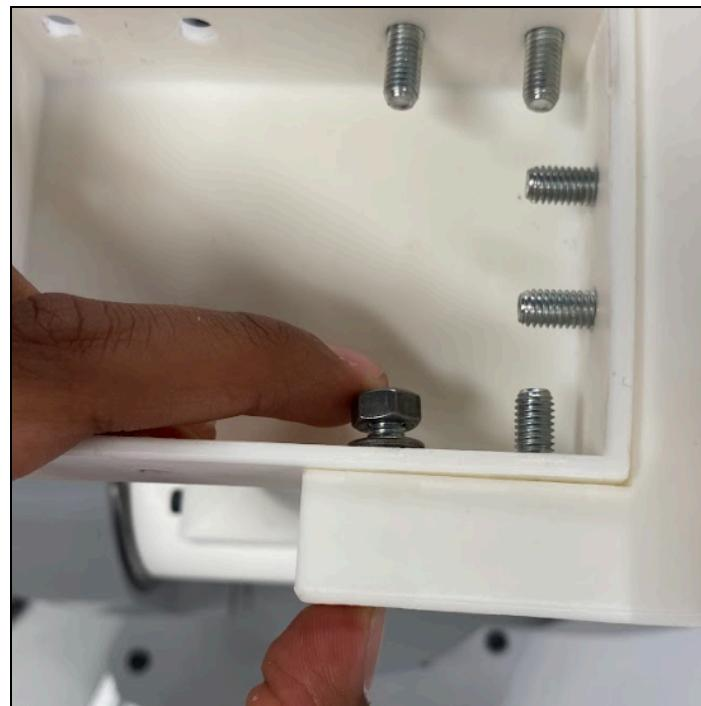

Figure 30: J3 Bearing Holder to Bicep Fastener orientation
- Below is the placement of the fasteners with the washer and nut in place. If the nut is difficult to tighten, use needle nose pliers for assistance. See Figure 30.